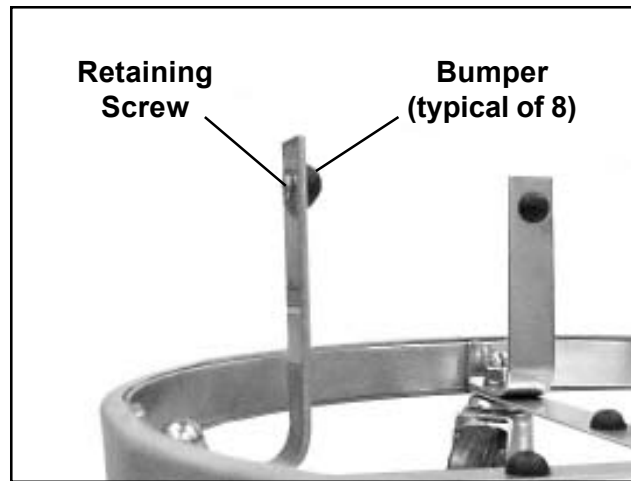

Figure 2. Typical Bumper and Retaining Screw
2. With a Phillips screwdriver, remove the retaining screw holding the bumper in place (Figure 2).
4. Install the new bumper in place and secure with the retaining screw removed above (Figure 2).